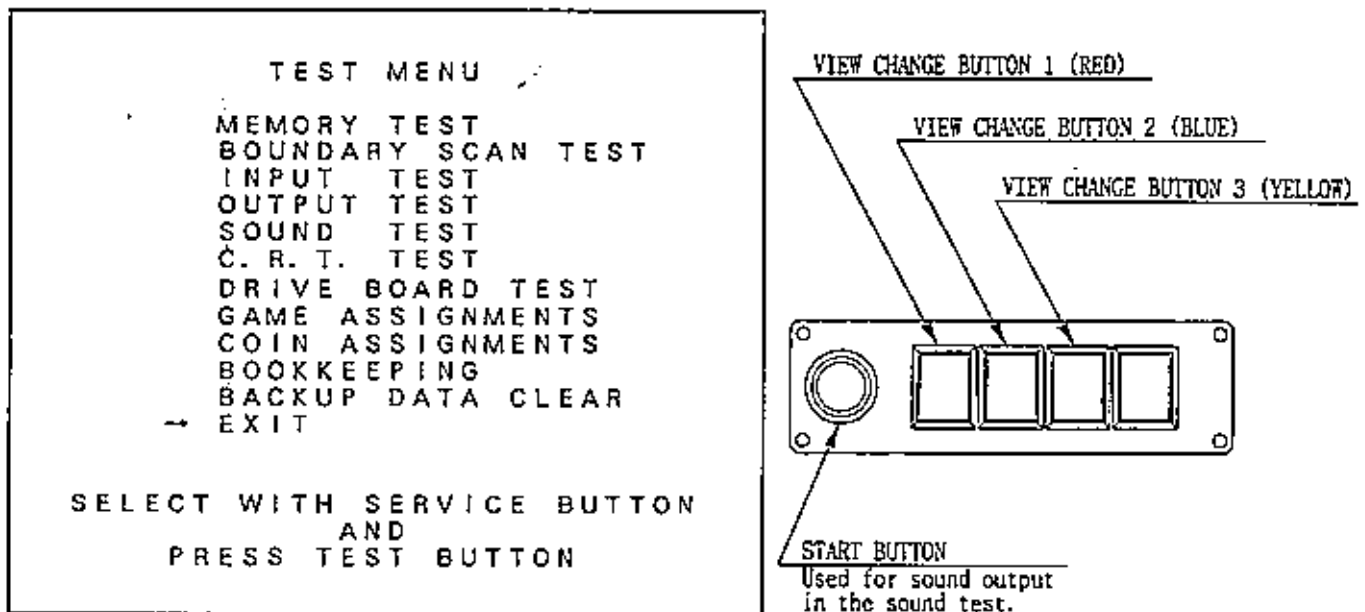

FIG. 9.2 TEST MENU
- Press the test button to have the menu displayed on the screen and enter the test mode (FIG.9.2).
- After finishing the test, press the Test button to return to the Menu screen (FIG. 9.2). Then, turn off power and turn it back on again. IC Board initialization is performed by turning the power off and then turning it back on again. Failing to do this turning off-on procedure can cause malfunctioning.